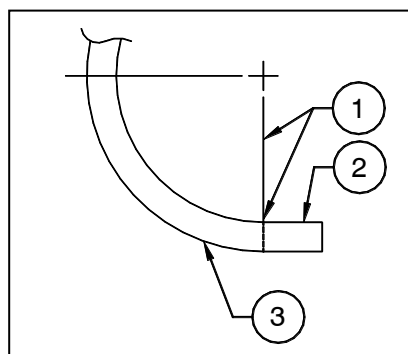

Figure 4.8b
- d. Trim off one straight end section of bearing strip only, as shown in Figure 4.8b. The cut should be made on a radial line from the drive center to provide the proper angle at the joint.